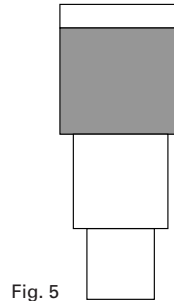

Fig. 5
- a. On the probe's head, slide the sensor cover to the up position to isolate the air velocity sensor from the environment (refer to Fig. 5).